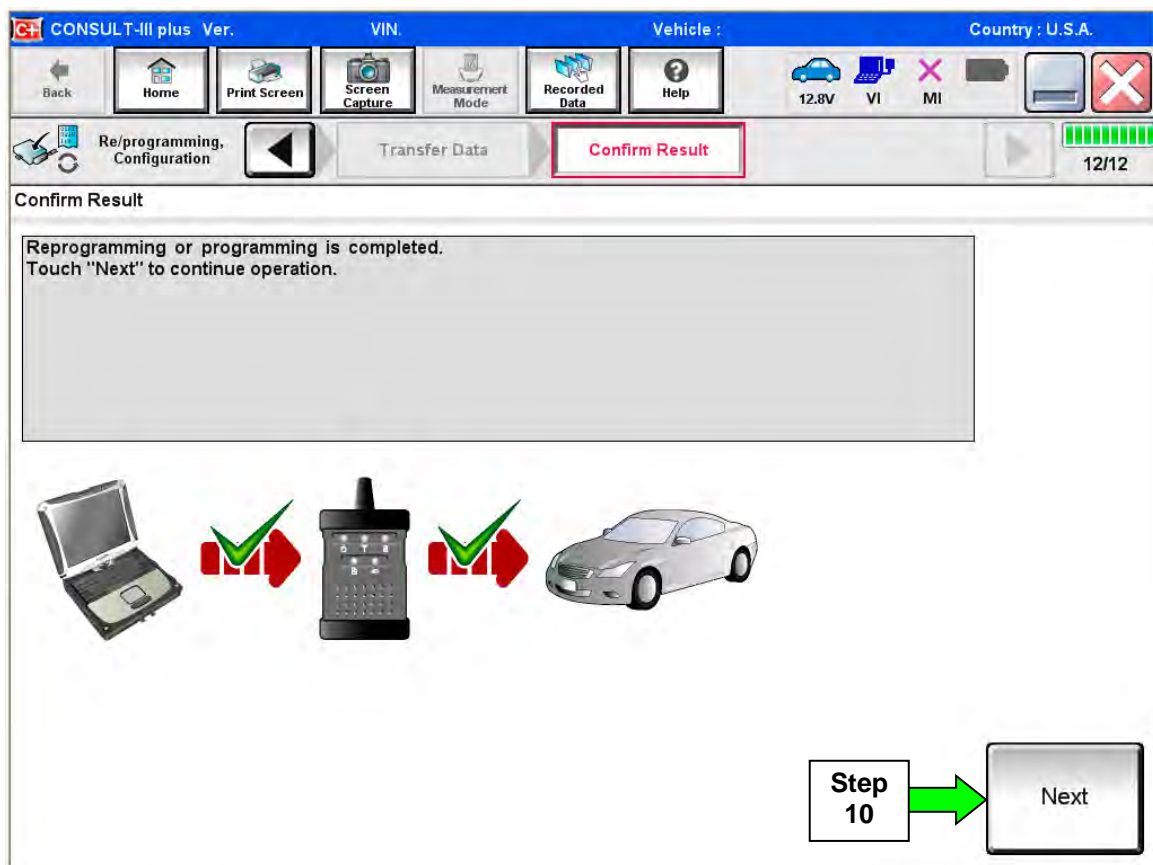

Figure 4K
8. When the screen in Figure 4K displays, reprogramming is complete.
**NOTE:** If the screen in Figure 4K does not display (indicating that reprogramming did not complete), refer to the information on the next page.